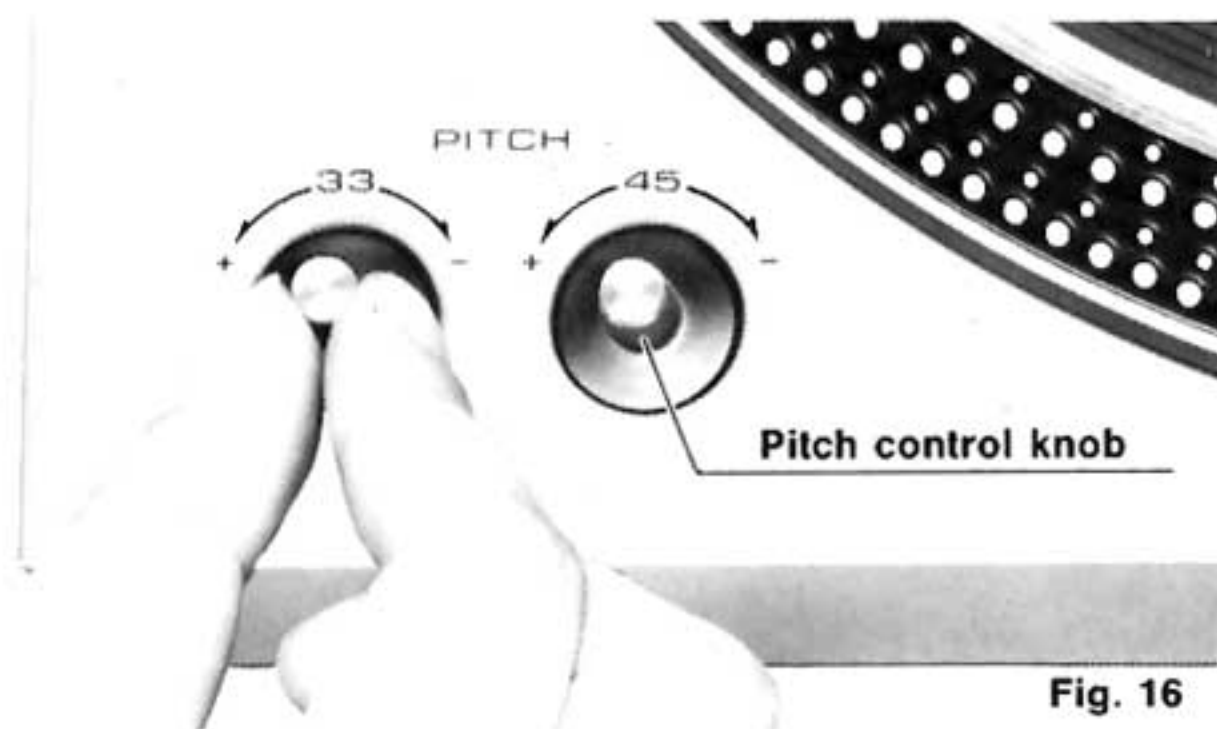

Fig. 16
### ① SPEED ADJUSTMENT (with pitch control knobs) (See Fig. 16)